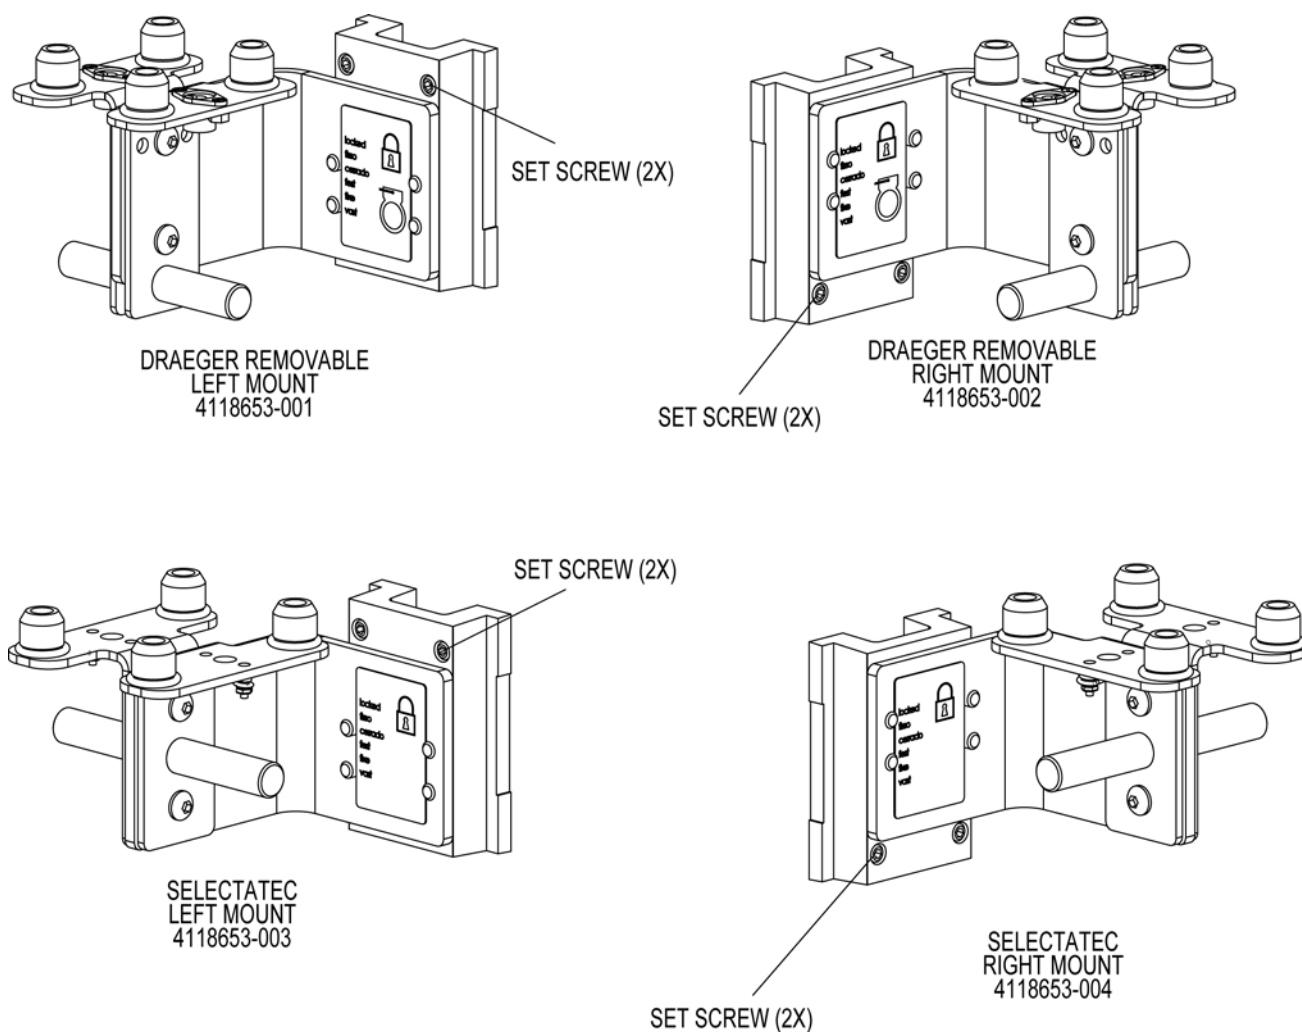
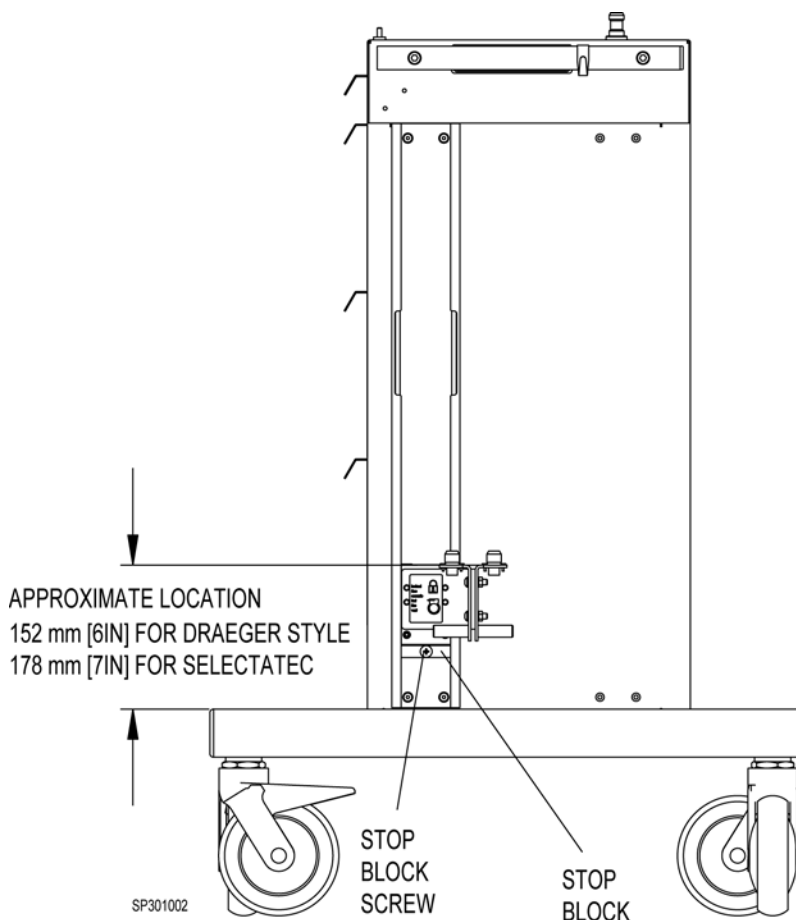
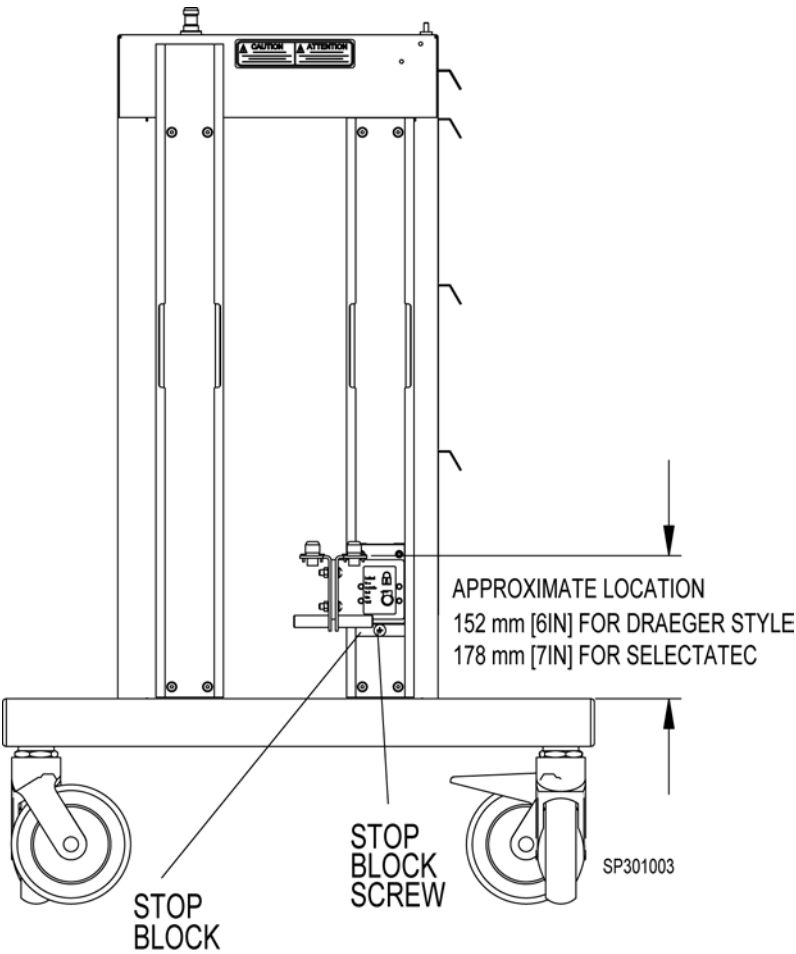

Fig. 1 Double Vapor Parking Mount Assemblies
Fig. 2 Installation on Right Side of Machine
Fig. 3 Installation on Left Side of Machine
1. Double Vapor Parking Mount (P/N's listed in Fig. 1)
3. Install the Double Vapor Parking Mount into the GCX channel. Position the mount at the height indicated in Fig. 2 or Fig. 3. Tighten the two 3 mm set screws against the channel. Refer to Fig. 1 for set screw locations.